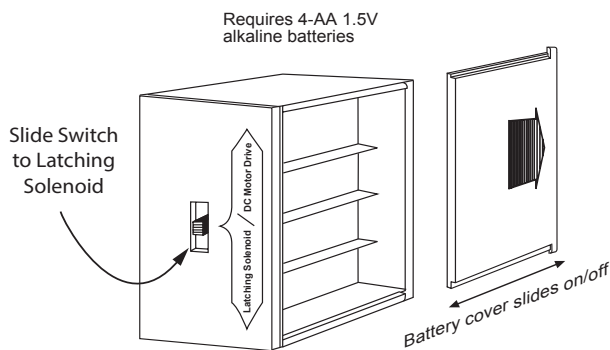
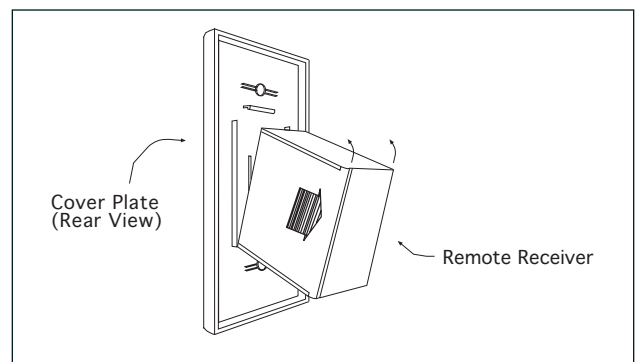

Fig. 13 Slide switch on latching solenoid
Fig. 15 Cover plate installation
4. Install the (4) AA batteries in to the battery compartment shown in Fig 13. Double check to ensure the slide switch is in the Latching Solenoid position on the battery pack. Then snap cover plate in place as shown in Fig 15.